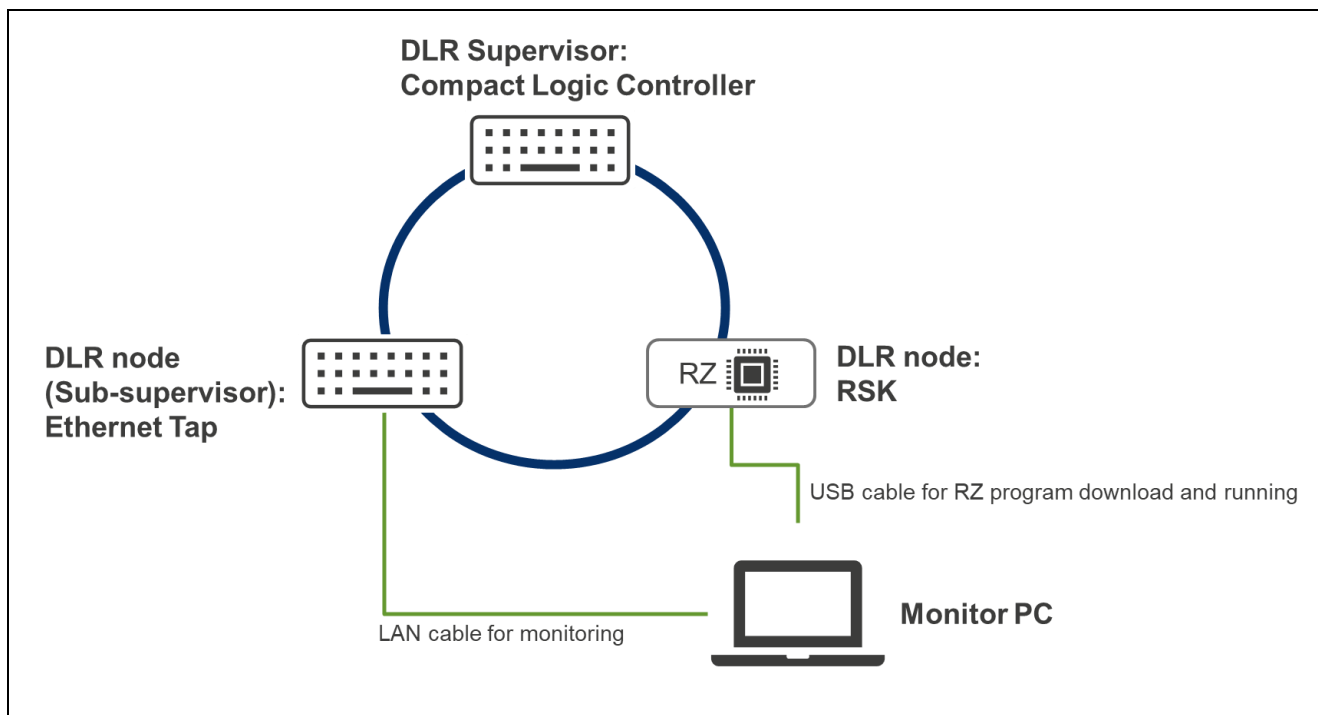

Figure 9.10 Topology for check
2. Establish the Figure 9.10 topology and power up.